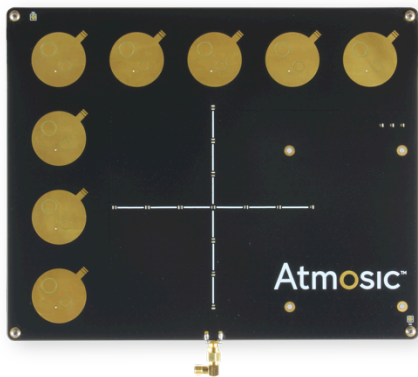

Figure 3 - Locator Antenna Array (Top Side)
- Figure 3 - Locator Antenna Array (Upper Side)